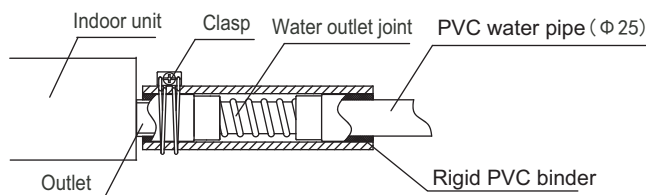

Fig.8-1
- Please use the accessory drain hose to connect the outlet of indoor unit with the PVC water pipe, and then use the accessory the clasp for chucking(Refer to Fig.8-1).